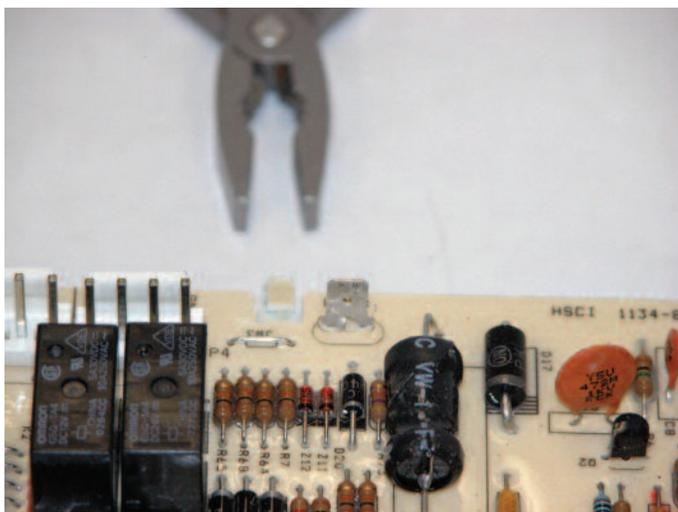

Fig. 14
2. Use pliers to break off the tab shown in **Fig. 14**.